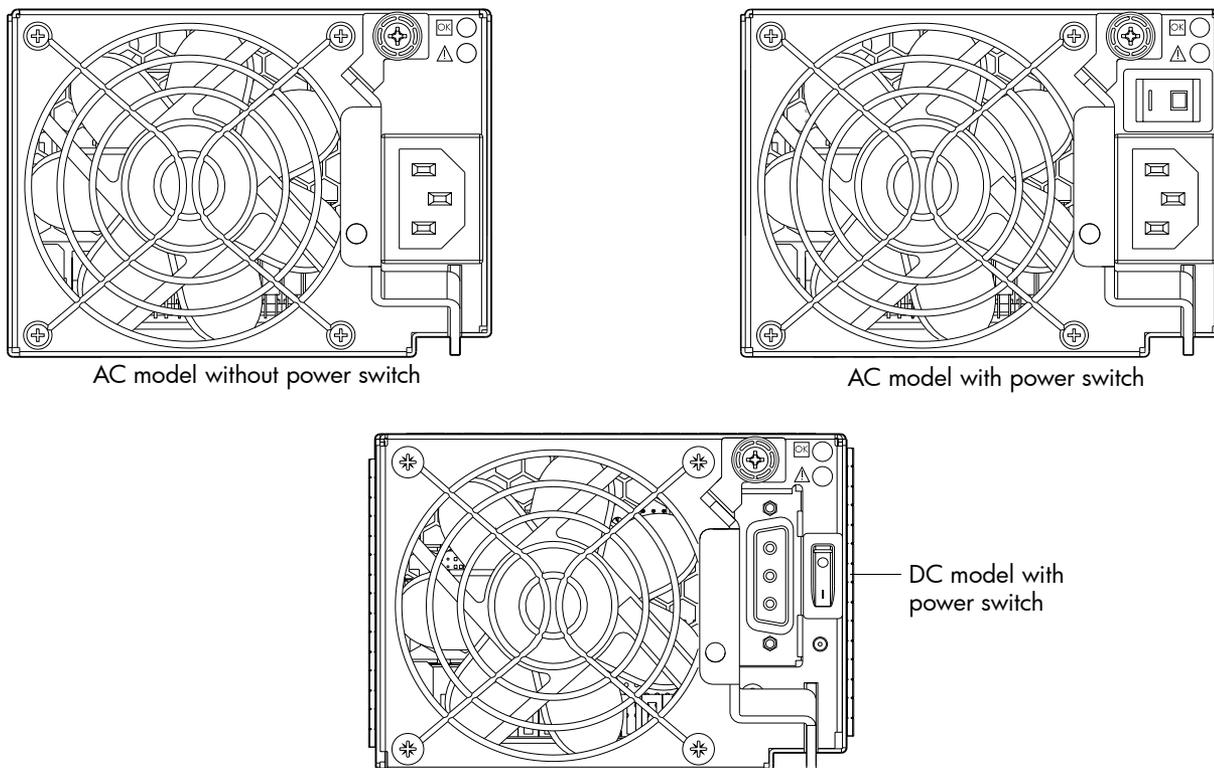

Figure 11 Orienting a PSU
1. Orient the PSU with the AC or DC connector toward the right as shown in Figure 11.
LEDs for a PSU are located in the top right corner of the module, as shown in Figure 11 on page 132.